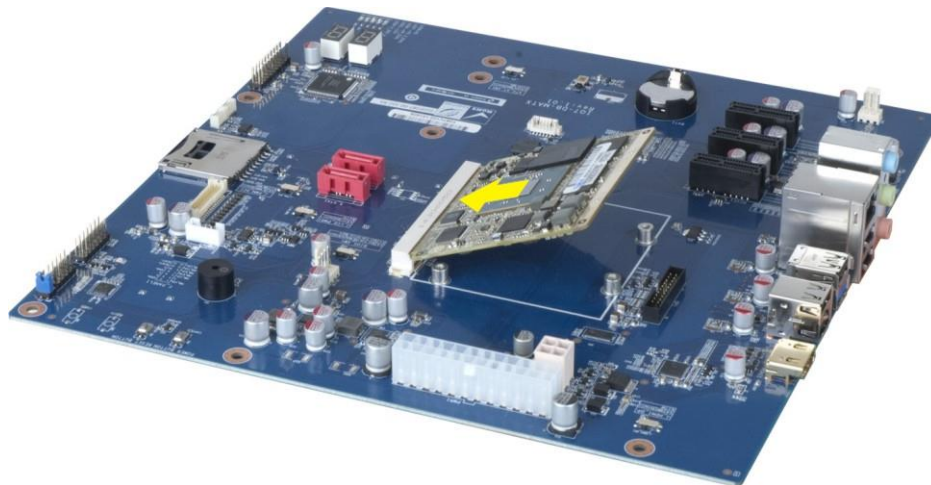

Figure 3-3: Connect the Qseven Connectors
- Step 1:** Align the Qseven connector on the edge of the iQ7-ASL with the corresponding socket on the baseboard. Slide the iQ7-ASL into the socket at an angle of about 20° (**Figure 3-3**).